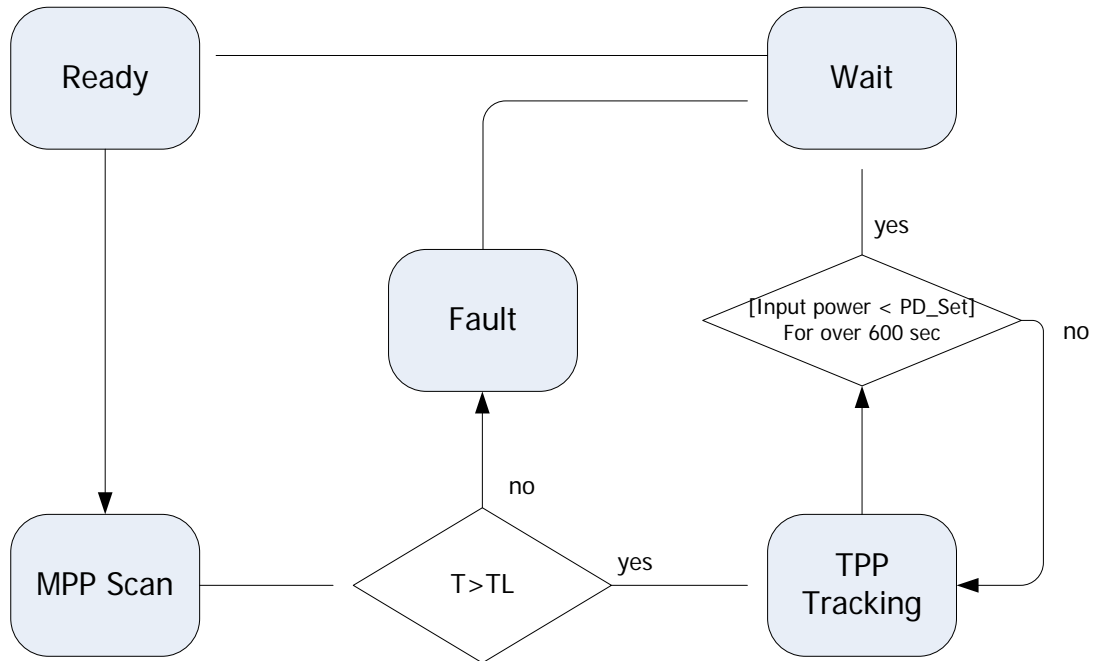

Figure 5.4 Max Power Point Tracking(MPPT) Process
- (1) Turn the circuit breakers Q3 and Q4 in AC panel on.
- (2) Turn the circuit breakers Q1 in DC panel on.
- (3) Turn the circuit breaker Q2 in AC panel on.
- (4) Close the case door.
- (5) After completing (1)-(4) steps, PCS will start its MPPT (MPP Tracking) function as shown in figure 5.4. And then it finishes its normal starting operation.